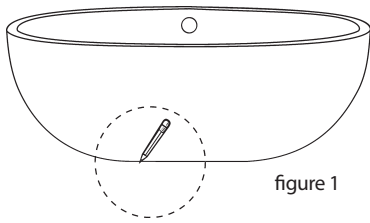

figure 1
2. Place the unit in the exact installed position on the floor and trace the outline of the bath with a pencil or any erasable marking (figure 1).